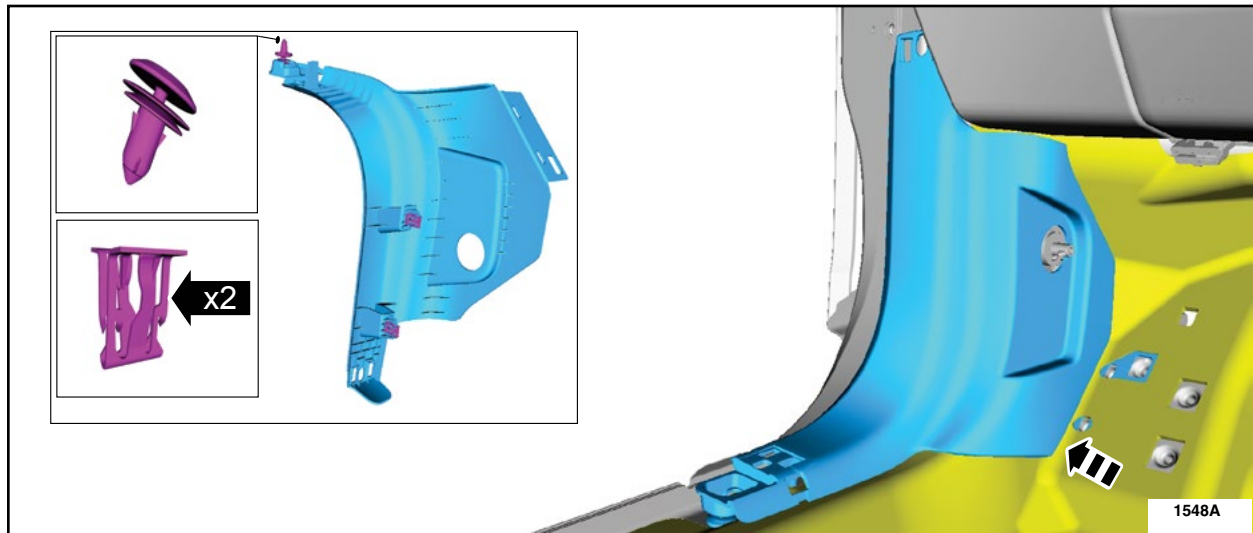

FIGURE 5
6. Remove the LH and RH lower interior cowl trim panels. See Figure 5.